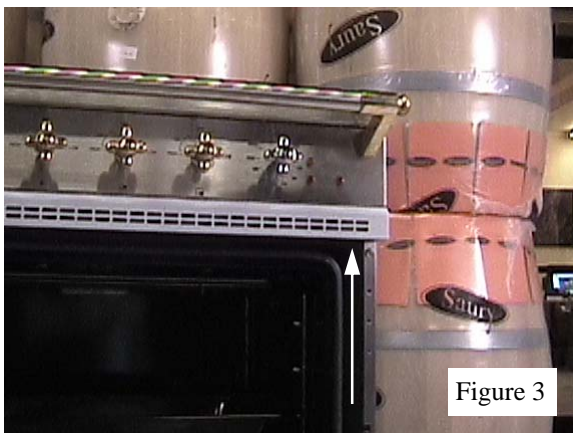

Figure 3
2. Loosen the vertical rod on the far right side. (Figures 3 and 4)